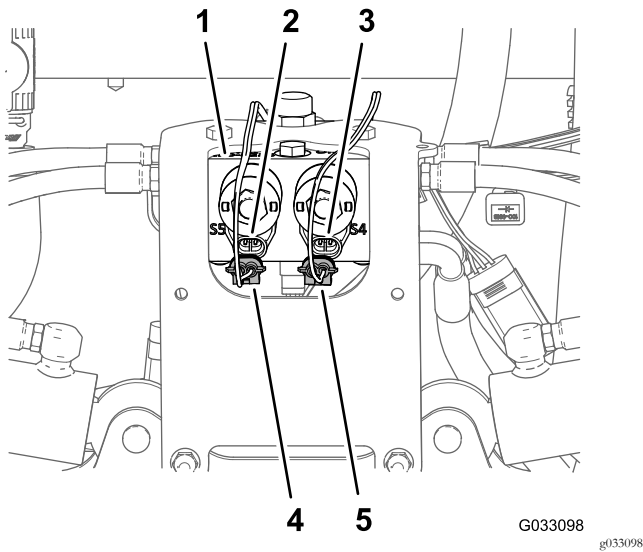

Figure 16
1. Disconnect the 2-pin connector of the sonic boom wire harness from the 2-pin connector of the right cylinder-enable solenoid of the lift-cylinder manifold (Figure 16).
2. Disconnect the 2-pin connector of the sonic boom wire harness from the 2-pin connector of the left cylinder-enable solenoid of the lift-cylinder manifold (Figure 16).